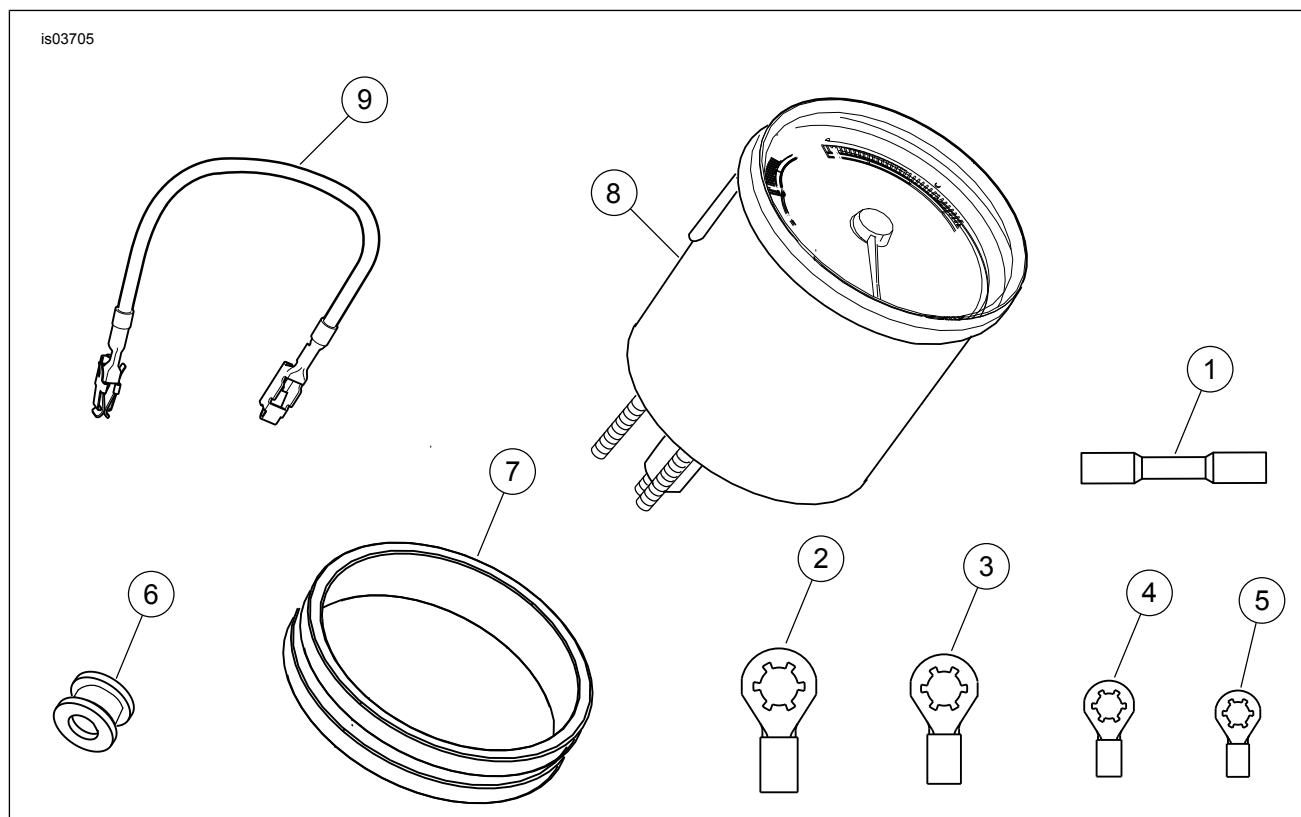

Figure 9. Service Parts: One and One-Half Inch Voltmeter Gauge
3. **For all models except the 1996 to 2003 Dyna:** See Figure 9. Crimp the 1/4 inch ring terminal (3) to the voltmeter ground wire. **For 1996 to 2003 Dyna:** Crimp the 5/16 inch ring terminal (2) to the ground wire.
4. See Figure 9. Insert the leads and crimp the metal insert of the butt splice (1).
1. See Figure 9. Lubricate the voltmeter conduit with soap and water and pull the wires and conduit through the housing grommet (6).
3. Crimp the #6 ring terminal (5) to the wires.